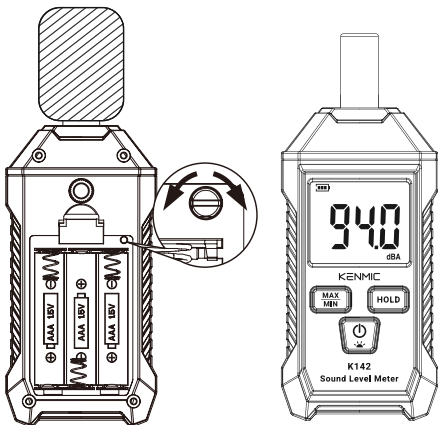

Figure 1
2. Turn on the power switch of standard sound source(94dB@ 1KHz), use straight screwdriver to adjust potentiometer located in the opening hole within the machine stick, and make LCD display 94.0(referring to Figure 1).